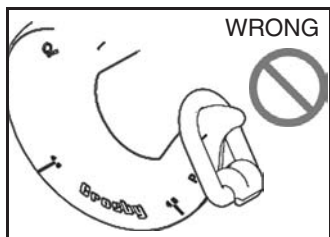

Figure 1
- Attach lifting device ensuring free movement of weld-on pivoting link bail (Figure 1).